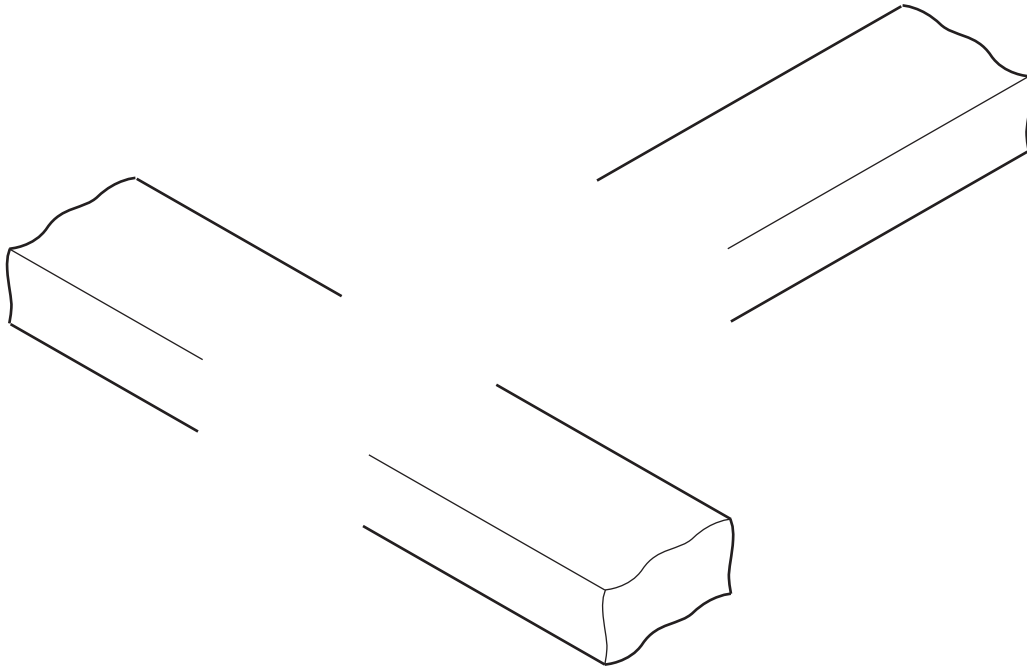

Fig. 4.1
- 4 Draw on Fig. 4.1 to show an exploded view of a tee-halving joint.